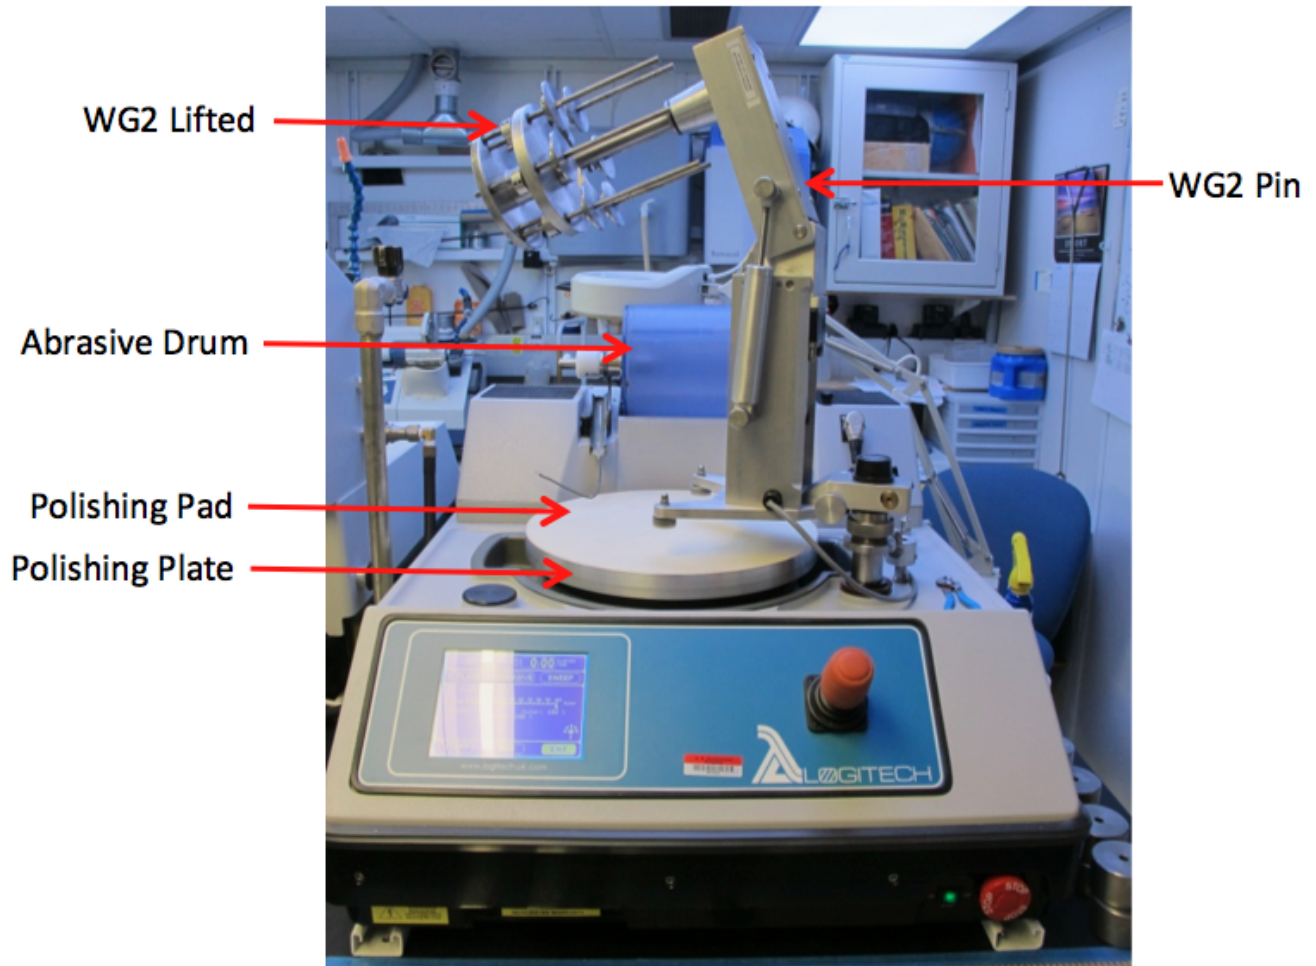

Figure 7
9. Place the abrasive drum (Fig. 7) on the top of the WG2.
10. Check polishing pad (Fig. 7) for wear. The polishing pad is a Kempad No. 150022.
- b. If it needs replacing. Remove all weights from the WG2. Pull out on the pin on the top back side and lift (Fig. 7).